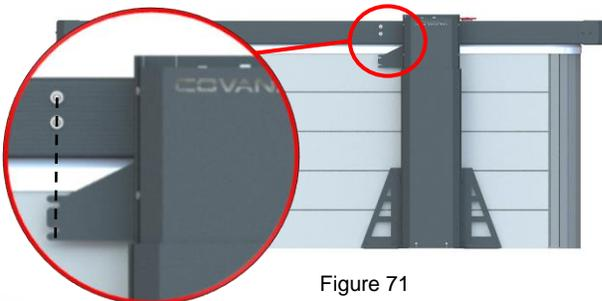
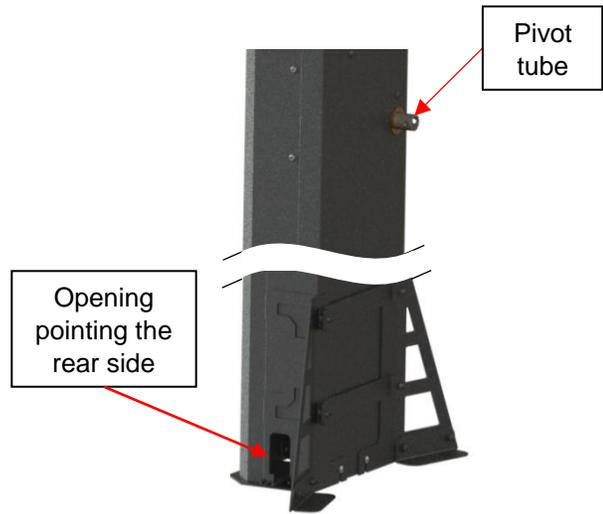

Figure 71
Figure 68
- 5) Place the two post assemblies at the required position next to the hot tub and vertically align the holes in the pivot arms with those on the sides of the C-channels. (Figure 71) Both openings for the drive shafts at the bottom of the posts should be pointing toward the rear side of the cover. (Figure 68)